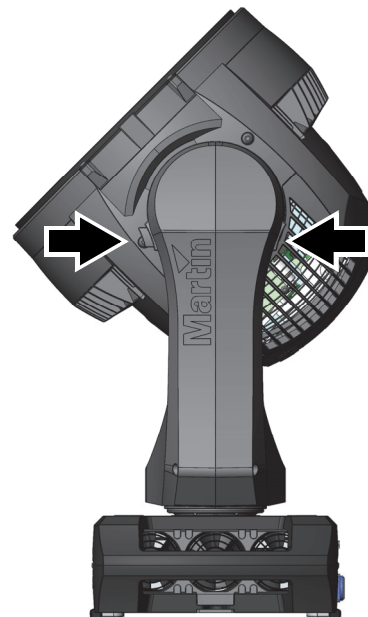

Figure 1: Tilt lock
See Figure 1. Release the tilt lock by pushing the lock in towards the yoke (you can reapply the tilt lock by first checking that the power is off and then pushing the lock back in towards the yoke from the other side).
The tilt position of the head can be locked for service. See Figure 1 on page 6. Push the lock in towards the yoke in one direction to lock the head and back in from the other side to unlock the head.
1. Disconnect the fixture from power, allow components to cool for 30 minutes, position the head so that the back of the head is accessible and apply the tilt lock (see Figure 1 on page 6).